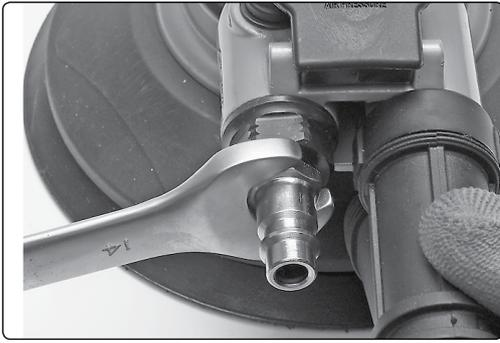

fig.1
- 4.2.2. Screw air connector into body of sander (fig.1).